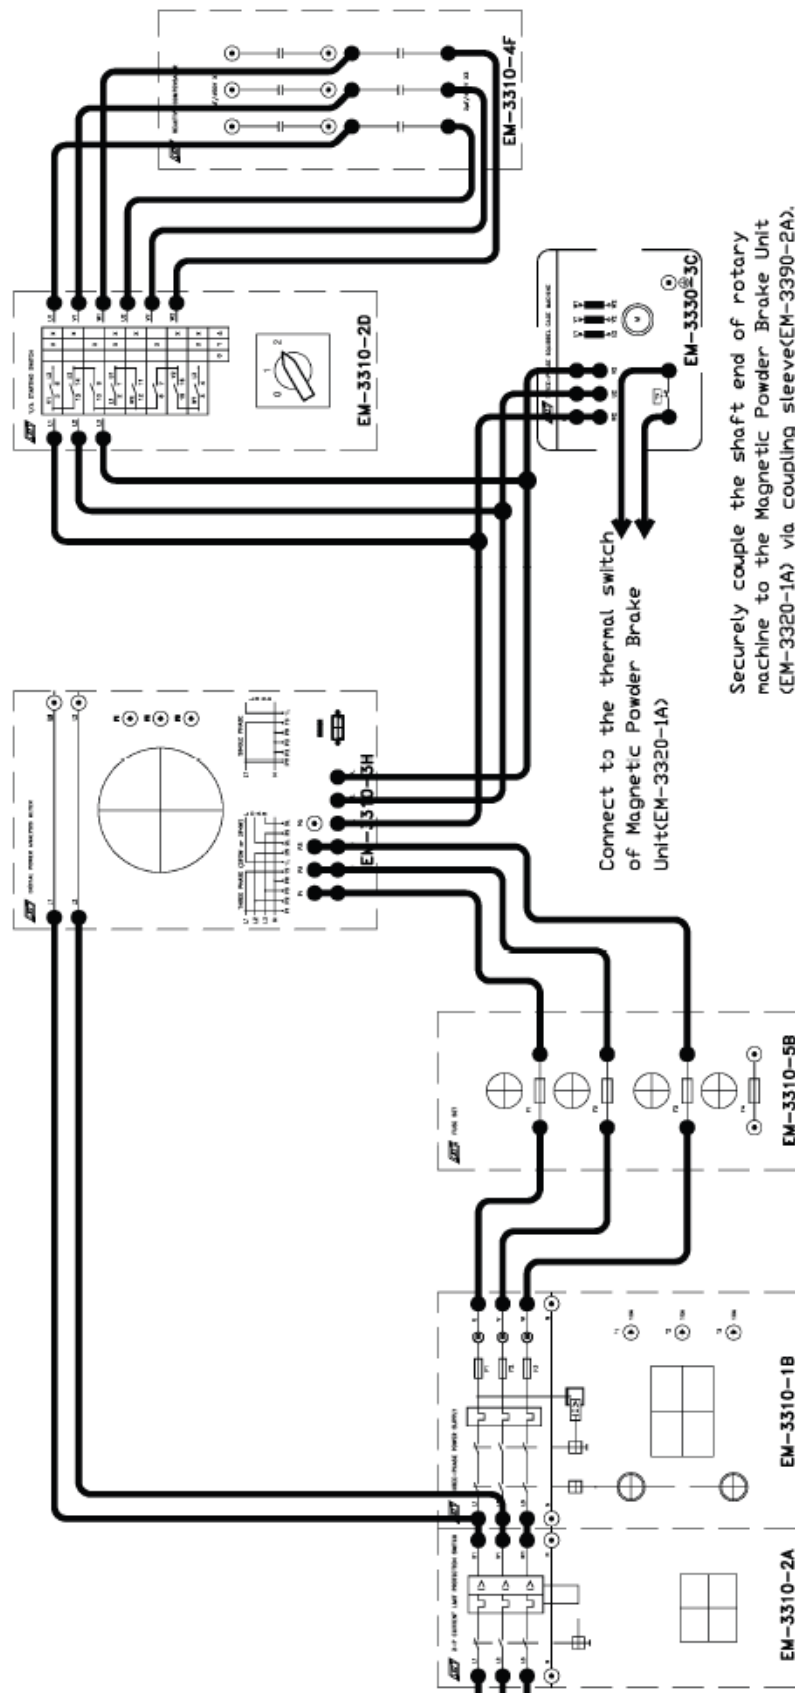

Fig. 12-3-3 Connection diagram for PF correction (3  $\mu$ F capacitor)
6. On the Y/ $\Delta$  Starting Switch Module, set the start switch to the 1 (Y) position. Repeat step 5.
12. Reconstruct the circuit in accordance with the circuit diagram in Fig. 12-3-1 and the connection diagram in Fig. 12-3-3. Have the instructor check your completed circuit.